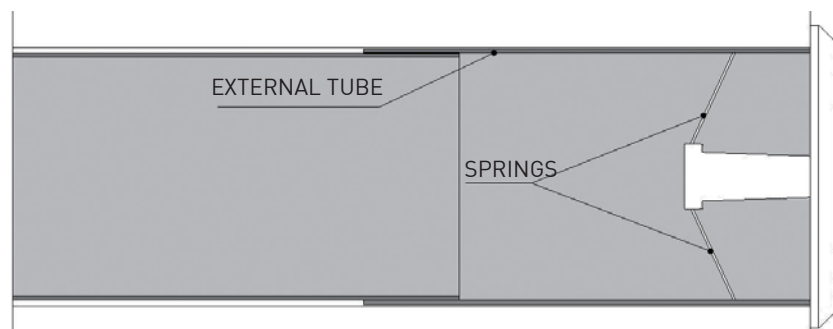

Figure 6
2. Place the rack "inside out" compressing the springs on the external tube (Figure 6)